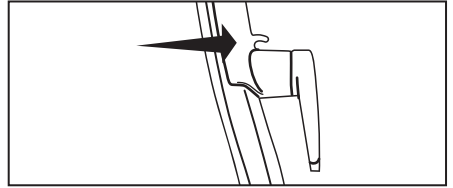

Fig. 2
- Secure the cord under the cord guide above upper cord hook (Fig. 2).